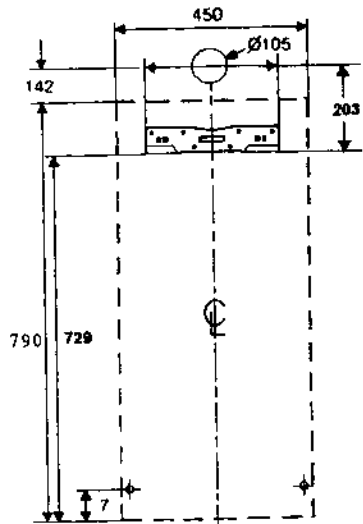

Fig.13
5.4 Mounting the Appliance (Fig. 13)
Alternatively, position bracket and holes to dimensions in fig. 13.
Refer to fig. 13 and figs. 14 - 18 for relevant dimensions for locating the hole. Where it is remote from the boiler take special care to ensure hole is at the correct level so that the finished flue is horizontal.
- 5.5.19 When the flue and appliance are finally positioned screw the lower frame to the wall fig. 13)